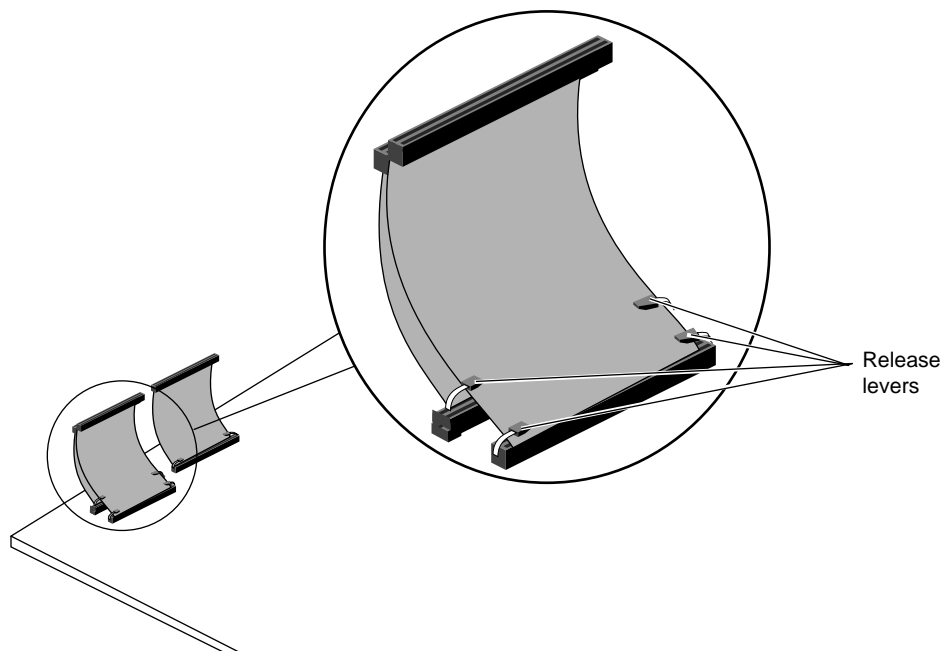

Figure 5-25 Installing the Flex Cables on the Upgrade IMPACT Graphics Board Set
5. Slip the innermost cable through the levers of the outermost connector. See Figure 5-25.